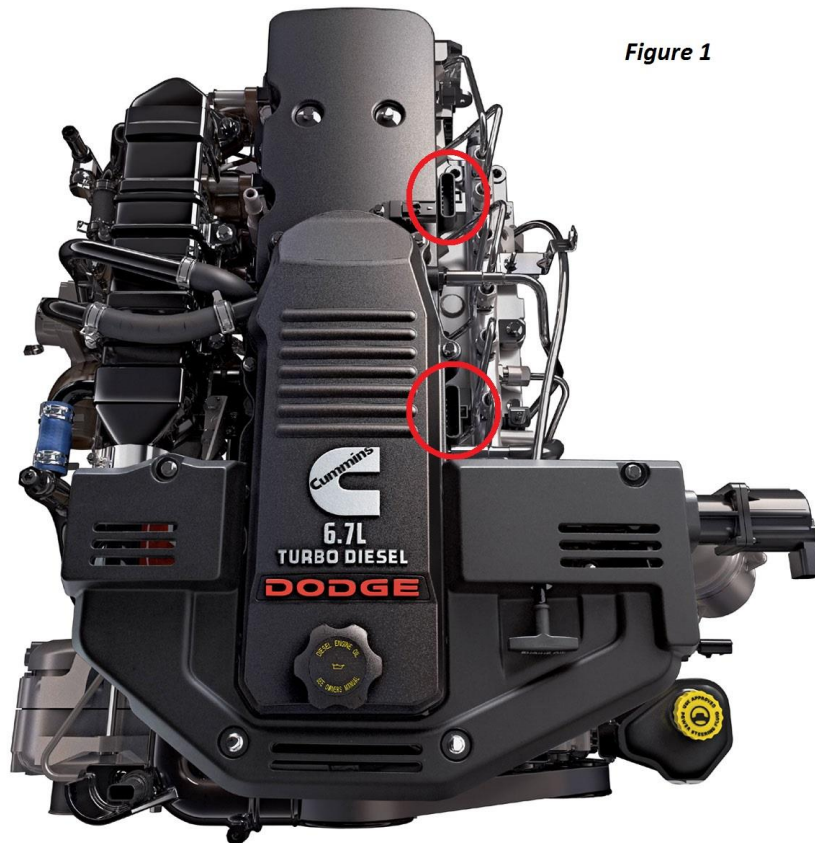

Figure 1
1. Locate the injector harness connectors on the Driver's side of the engine, right beside the valve cover. There will be two connectors. Both are identified in Figure 1.
2. Start with the rear injector harness connector as shown in Figure 1. Disconnect the factory wire harness going to it.
4. Now go to the front injector harness connector as shown in Figure 1. Disconnect the factory wire harness going to it.